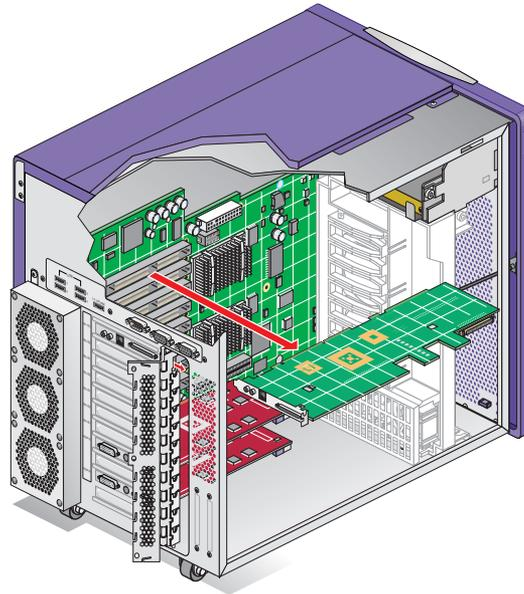

Figure 3-18 Removing the Base I/O Board
3. Gently grasp both ends of the base I/O board. Then pull it straight out until it clears the PCI slot. Tilt the front end of the I/O board upward until it clears the edge of the chassis. Then remove the I/O board from the enclosure and place it in an antistatic bag in a safe location (see Figure 3-18).